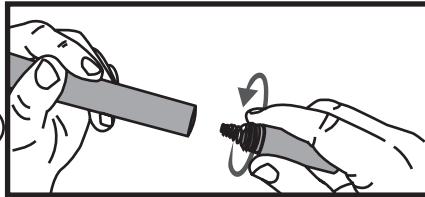

Figure 1; Unscrew Battery Cap
Included in your package are six (6) 1.5v Alkaline AA BATTERIES (D). To install the batteries, unscrew the BATTERY CAP (g) located at the bottom of the SMART WAND™ TWIST HANDLE (f) [Fig. 1].